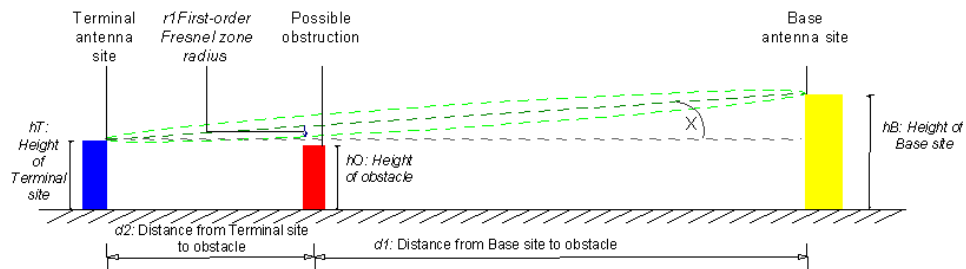

Figure 2-7: Altitude Measurement
6. Verify that the highest obstruction does not enter the first-order Fresnel Zone as shown in Figure 2-7 using either a GPS receiver or an altimeter.